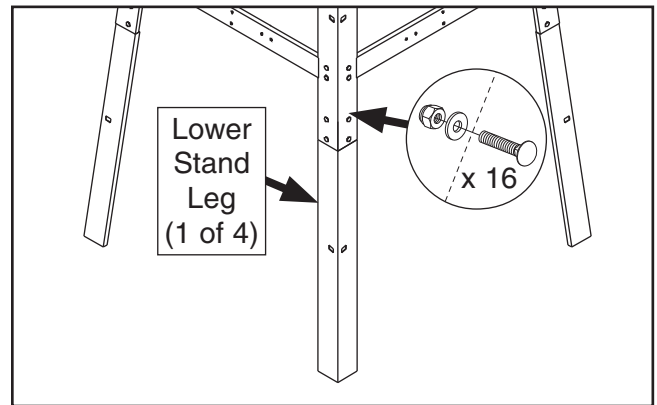

Figure 21. Lower stand legs attached.
22. With assistance and power lifting equipment, raise entire assembly high enough to install lower stand legs to bottom of stand with (16) $\frac{5}{16}$ "-18 x $\frac{3}{4}$ " carriage bolts, $\frac{5}{16}$ " flat washers, and $\frac{5}{16}$ "-18 hex nuts (see **Figure 21**).